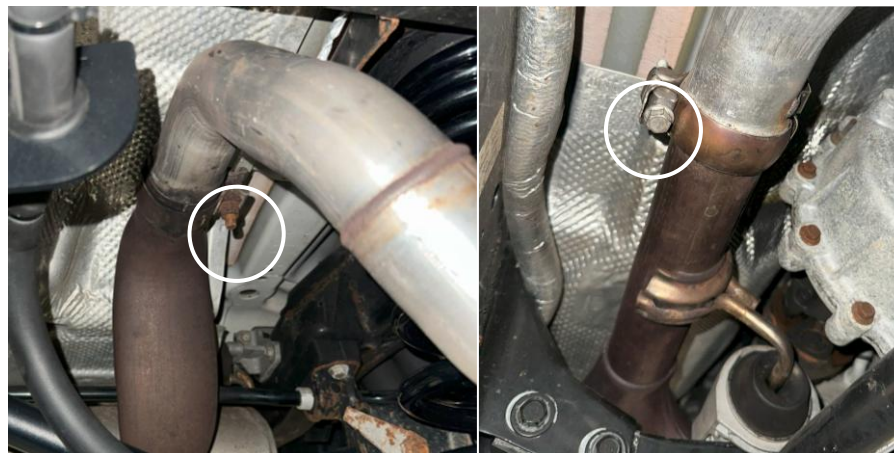

Figure 14: Rear exhaust section clamps to be removed (3.6 V6 JT)
- Remove the rear exhaust section at the clamps near the muffler and the cross member (Figure 14) and fully remove the section **\*3.6 V6 JL ONLY\***. If installing the rear upgrade kit on a 3.0L Diesel, you will not need to remove any rear exhaust sections.